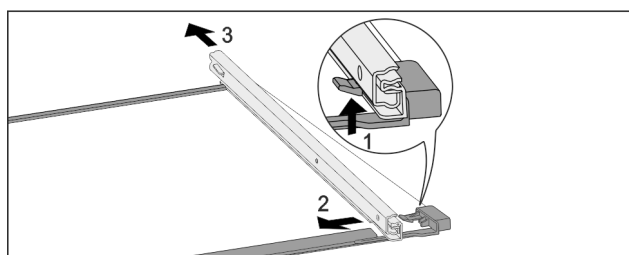

Fig. 179 Glass shelf with rails
- Push up front click-in hooks. Fig. 179 (1)
- Move the pull-out rails to the side Fig. 179 (2) and to the rear Fig. 179 (3).